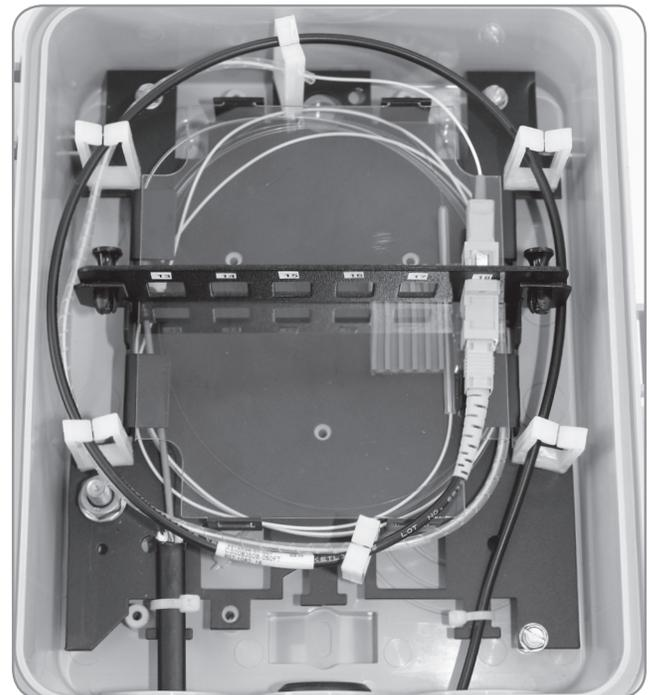

Figure 7
7. Repeat steps 3-6 for each additional distribution cable to be installed. (Figure 7)